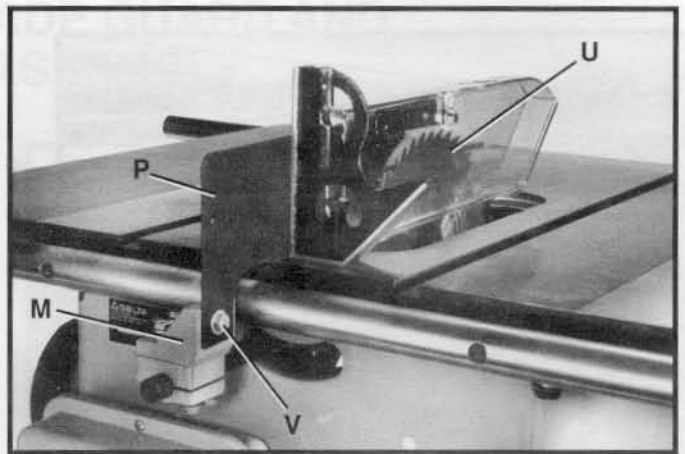

Fig. 25
9. Fasten splitter and guard assembly (P) Fig. 25, to bracket (M) using one inch-long hex head screw (V) and flat washer supplied.
10. Reassemble saw blade (U) Fig. 25.